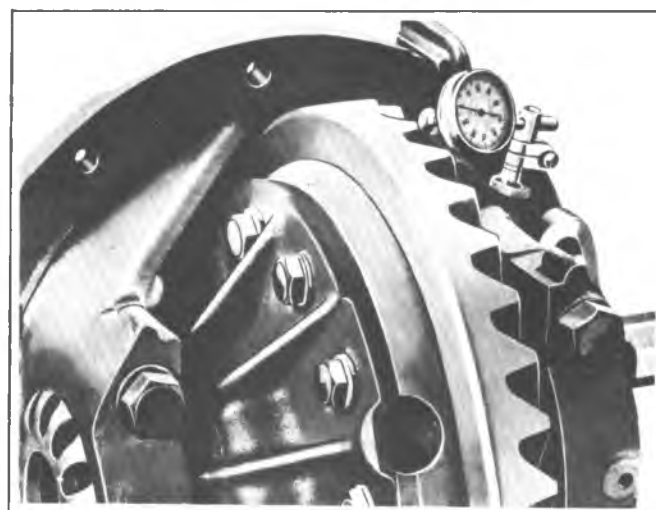

Fig. 10G--Checking Backlash
6. Mount a dial indicator on the carrier and check the backlash between ring gear and pinion as shown in figure 10G. Backlash should be from .003" to .012" (.005" to .008" preferred).